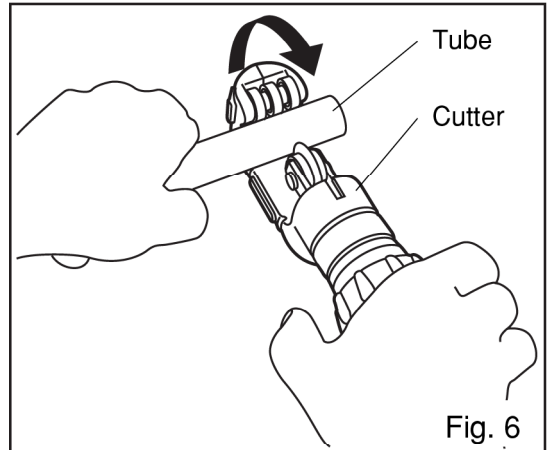

Fig. 6
(2) Cutting and scraping the tube
- ① Mark a line where you wish to cut the tube, and then place the tube on the cutter. (Fig. 6)
- ② Rotate the cutter around the tube in the direction of the arrow (Fig. 6) while feeding the blade by turning the knob little by little.